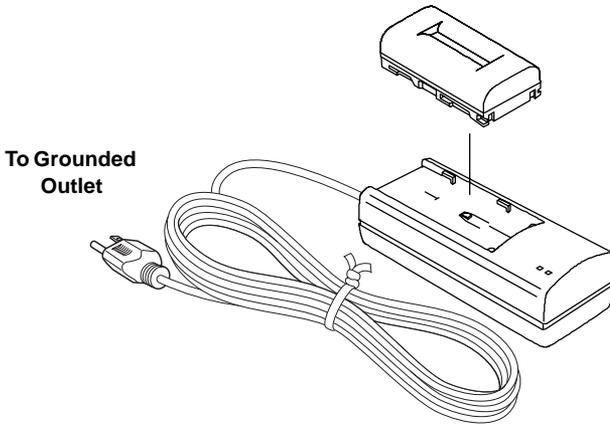

Figure 2-2. Charging the Battery in the Charger
**To charge the battery using the optional charger,** (Figure 2-2) remove the battery from the BR-1 (see “Installing the Battery” on page 2-3 for details) and slide it onto the charger. Plug the charger in to a grounded outlet.